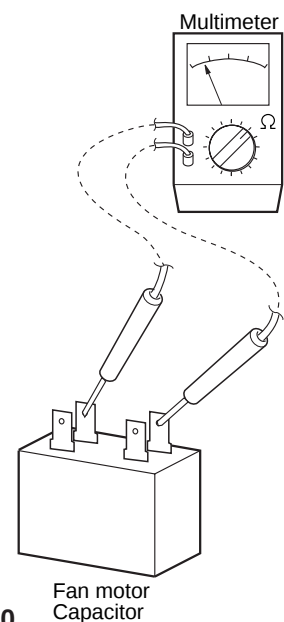

Fig. 30
⑤ **Fan motor capacitor Both in indoor and outdoor unit**
- Remove the lead wires from the capacitor terminals, and then place a probe on the capacitor terminals as shown in **Fig. 30**. Observe the deflection of the pointer, setting the resistance measuring range of the multimeter to the maximum value.